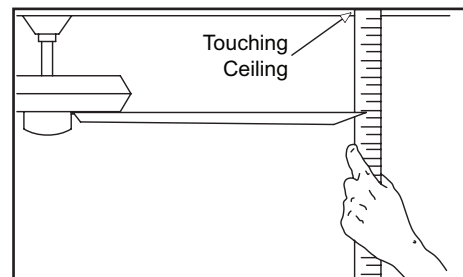

Figure 10
2. Most fan wobble problems are caused when blade levels are unequal. Check this level by selecting a point on the ceiling above the tip of one of the blades. Measure from a point on the center of each blade to the point on the ceiling. Measure this distance as shown in Figure 10. Rotate the fan until the next blade is positioned for measurement. Repeat for each blade. Measurements deviation should be within  $\frac{1}{8}$ ". Run the fan for 10 minutes.